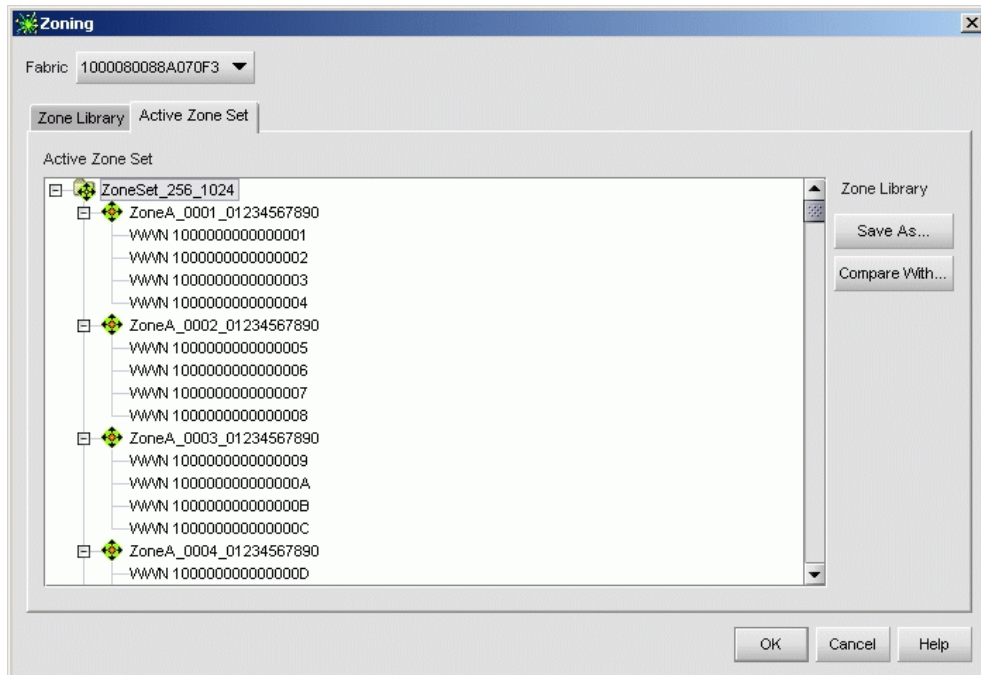

Figure 3-43 Zoning Dialog Box (Active Zone Set Tab)
- e. Click the *Active Zone Set* tab. The *Zoning* dialog box displays with the *Active Zone Set* page open (Figure 3-43).